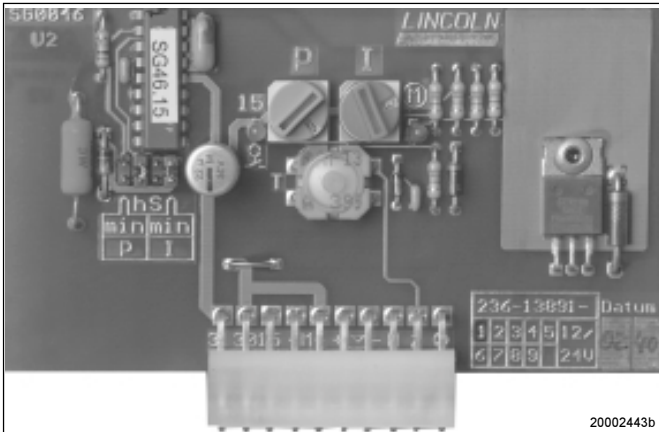

Fig. 5 - Printed circuit board 236-13891-1
- The printed circuit board automatically controls the sequence of the pause and operating times of the model 203 central lubrication pump as a function of the vehicle or machine working hours t_B (Fig. 5).
- A lubrication cycle consists of one pause time and one operating time. Once the pause time has elapsed, the operating time starts to run. This lubrication cycle is repeated permanently after the machine or vehicle has been put into operation. Refer to Fig. 5.